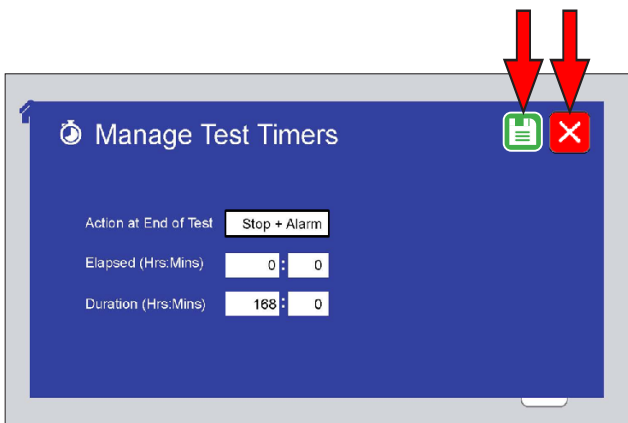
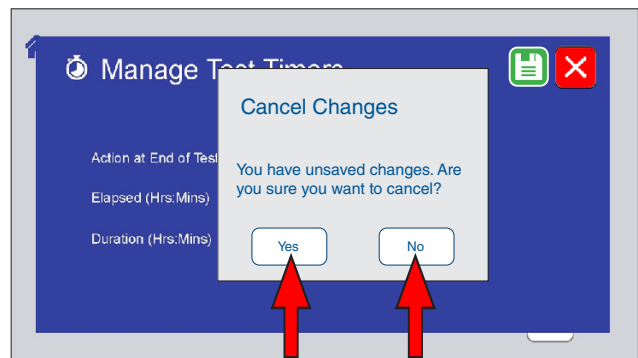

Figure 9.5f: If any changes have been made, touch the save changes icon or the cancel changes icon to re-display the Main Menu screen.
Figure 9.5g: If the cancel changes icon is touched, the operator is prompted for verification. Touch Yes or No.
- If any changes are made to Manage Test Timers, the operator can accept or cancel the changes (Figure 9.5f and Figure 9.5g)